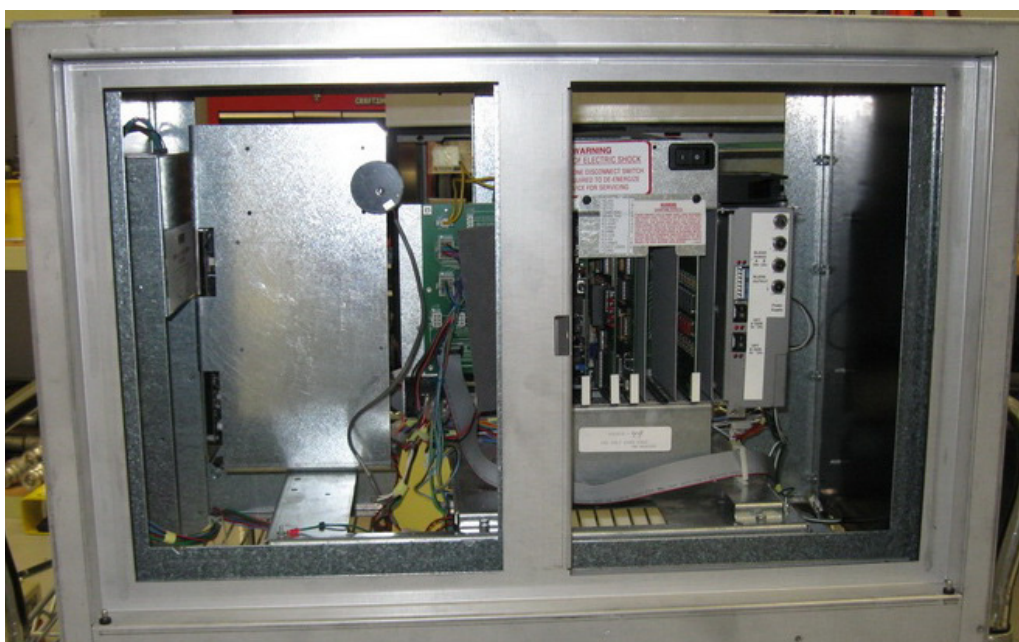

FIGURE 8
12. A. Use the template (WU003165-0001) to mark location of top 3 holes to be punched in the head frame as shown in Figure 8.